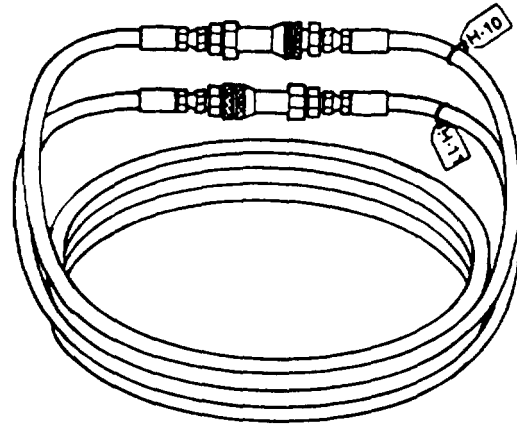

Figure 5-14. Extension Hoses
- a. Remove two coiled extension hoses (Figure 5-14) from tool box. Their ends are connected together by quick disconnects, and are marked with ID tags reading H-10 and H-11. Take them to right side of carrier.